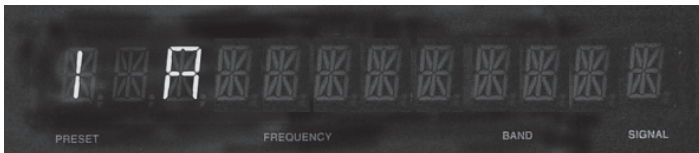

Figure 7
3. Push the DISPLAY Push-button and the Front Panel Display of the Station Frequency (default) will be replaced by "1", a blank space, and then a flashing "A". Refer to figure 7.